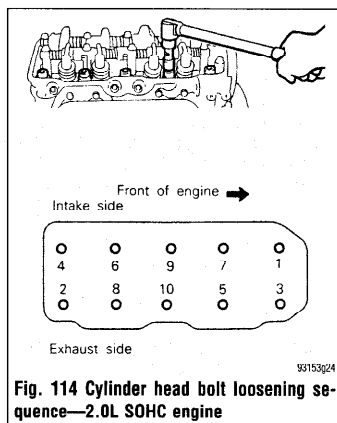

Fig. 114 Cylinder head bolt loosening sequence—2.0L SOHC engine
2.0L SOHC Engine**▶ See Figures 114 and 115**